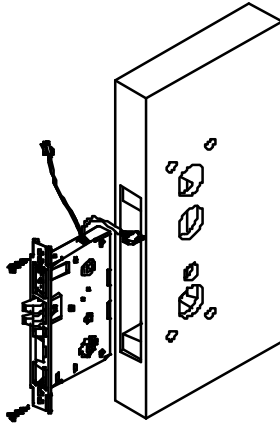

Figure 7
- 7) insert the lock body. Show as Figure 7.